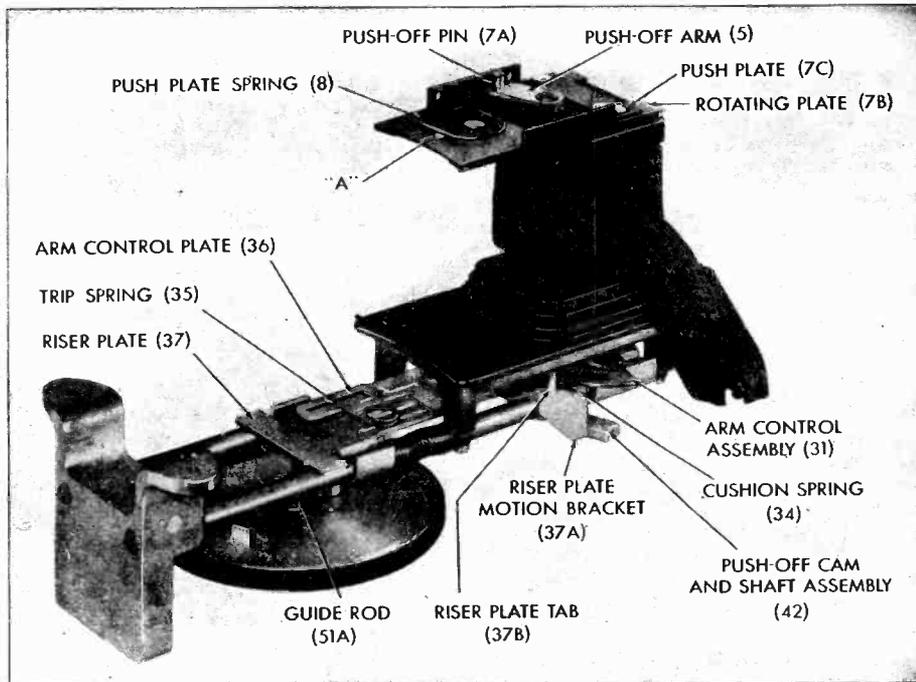

FIGURE 6.
(b) Manually slide the push plate (7C) over the rotating plate (7B) until a piece of metal 3/32 inch in diameter or a #8-32 Bristol wrench can be inserted into the opening at the front of the center slot in the push plate (see "A", Figure 6). If the 12-inch push-off is faulty with this setting, try using a 1/16" piece of metal or a #6-32 Bristol wrench.
(b) Cushion spring (34) has slipped out of position and is on wrong side of riser plate tab (37B). Re-position spring. (See Figure 6).
Cushion spring (34) has slipped out of position and is on wrong side of riser plate tab (37B). Re-position spring. (See Figure 6).